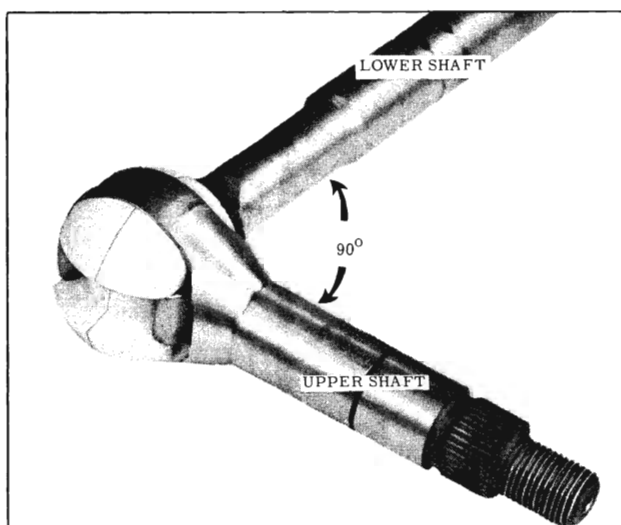

Fig. 4-94 Removing Sphere and Upper Shaft
7. Turn the upper shaft  $90^{\circ}$  from the center line of the lower shaft and remove the upper shaft and sphere from the lower shaft. (Fig. 4-94)